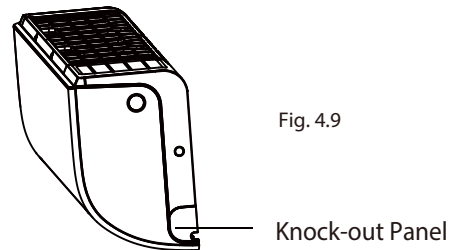

Fig. 4.9
2. If the wall hole is behind the unit, keep the knock-out panel in place. If the wall hole is to the side of the indoor unit, remove the plastic knock-out panel from that side of the unit. (See Fig. 4.9 ). This will create a slot through which your piping can exit the unit. Use needle nose pliers if the plastic panel is too difficult to remove by hand.